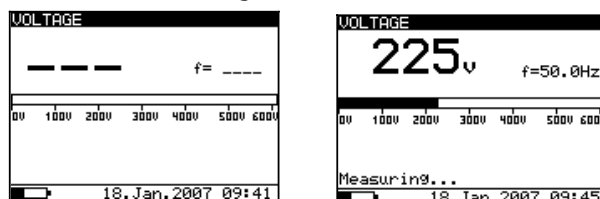

Fig. 8 Voltage function display states
Selecting this function displays the following states (initial state and state with results after completion of the measurement, see the **Fig. 8**).
- The result (see the right figure in the **Fig. 8**) can optionally be saved by pressing the MEM key twice, see chapter the description of Store, Recall and Clear Operation.